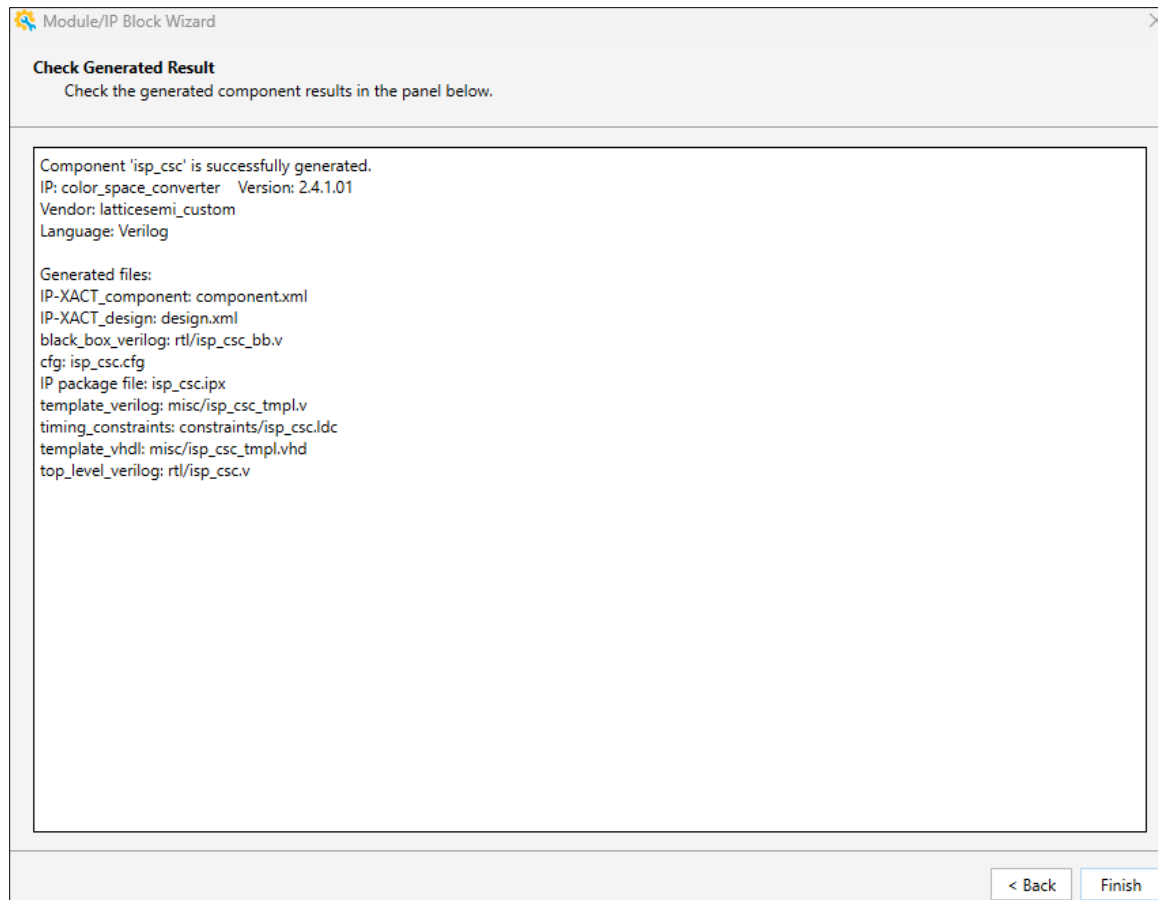
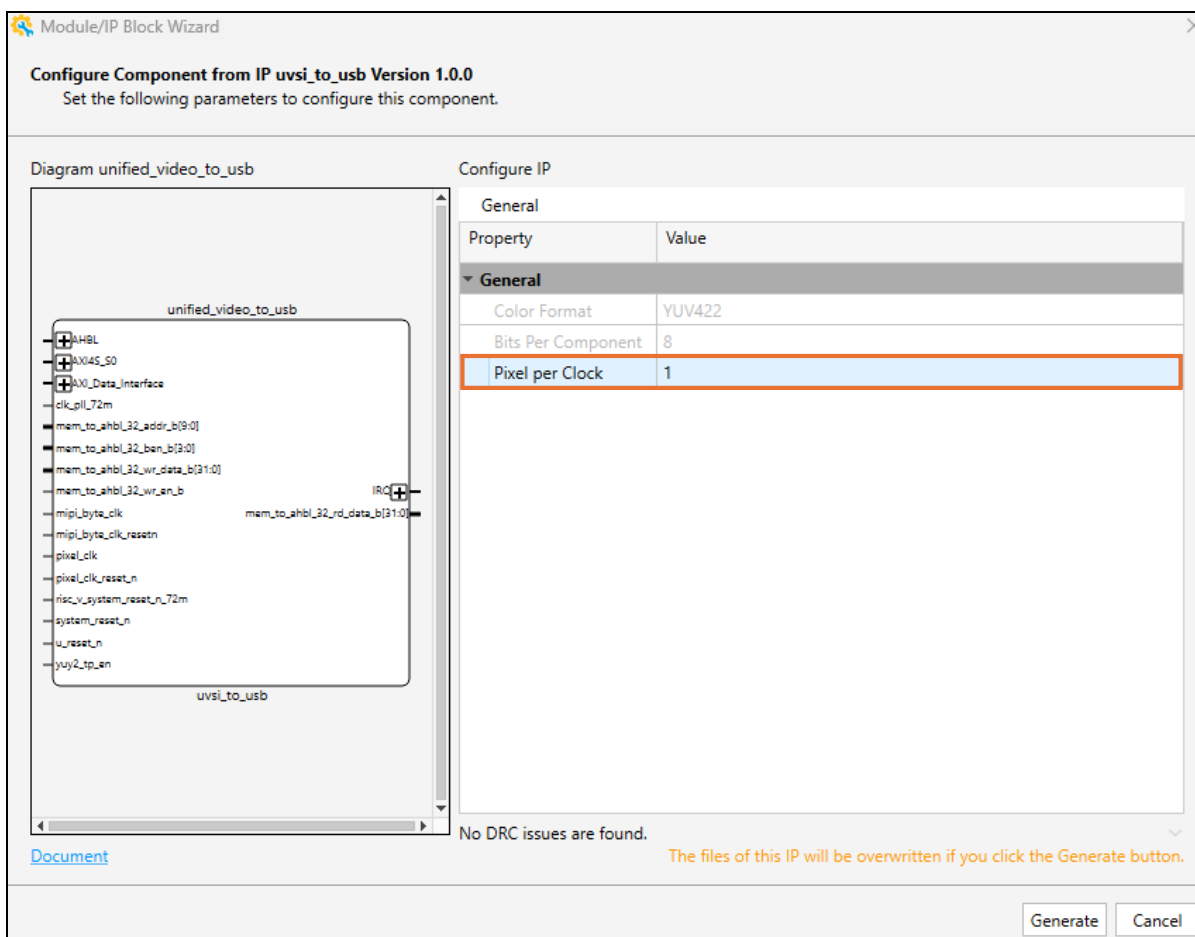

Figure 7.12. Color Space Converter IP Check Generated Result Window
Figure 7.15. Video-to-USB Configuration
4. After the generation is completed, click **Finish** in the **Check Generated Result** window (Figure 7.12).
2. Under the **Input setting**, set the **Pixels per clock** to 1 (Figure 7.15).
Building the Reference Design	- Updated Figure 7.12. Base Address Assignment. - In the Install IPs at Local from File section, added the following note: Note: for the latest version of the local IP files, contact Lattice Sales or Tech Support. - In the Opening Radiant Project section: - changed To create the FPGA bitstream file, open the Lattice Radiant software to To create the FPGA bitstream file, launch the Lattice Radiant software from Lattice Propel Builder; - changed The design should have no errors but there are 30 warnings due to some unused signals from some instance to The design should have no errors but there are 1074 warnings due to some unused signals from some instance; - updated Figure 7.15. Open the Radiant Design. - In the Generating Bitstream File section: - added If the Place & Route Design process encounters an out-of-memory error, reduce the number of host machine cores defined in Strategy1 > Place & Route Design from 7 to a smaller number; - added Figure 7.17. Place & Route Design Strategy.